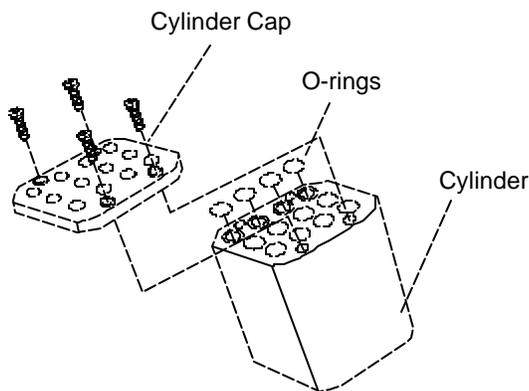

Figure 6: Removing O-rings
- **125 ul, 12.5 ul Pipettors:** O-rings from these pipettors are located in the cylinder. To remove the o-rings, unscrew the four screws that hold the cylinder cap to the cylinder (see Figure 6). Once removed, the o-rings should be discarded as biohazardous waste.